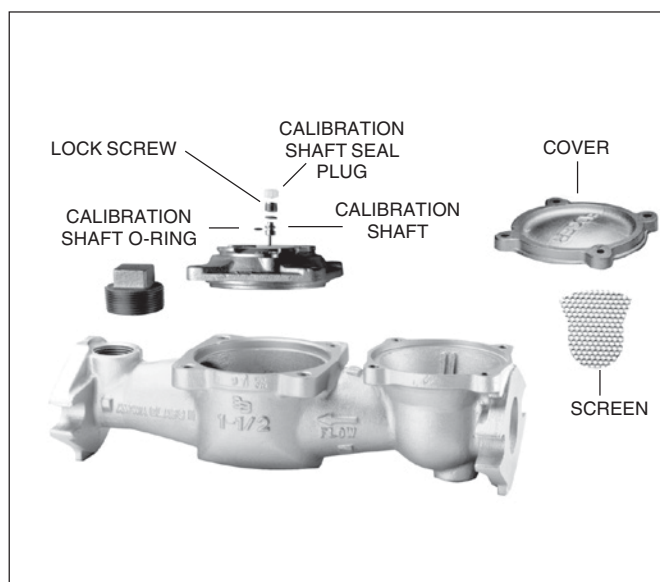

Figure 2. Calibrating Recordall Turbo Series Meters, shown with Optional Test Plug
b. CALIBRATION. The meter's calibration ring is preset at the factory and sealed. In normal service, it should not have to be reset. If a retest is required in which a calibrated test stand reveals that the meter needs recalibration, proceed as follows (see Figure 2):